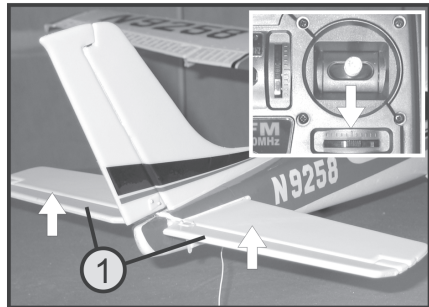

Figure 16b
- When you pull the right control stick on the transmitter downwards (see figure 2, pos. 4), the elevator balance tab (1) has to deflect upwards by approx. 1 cm (see figure 16b).